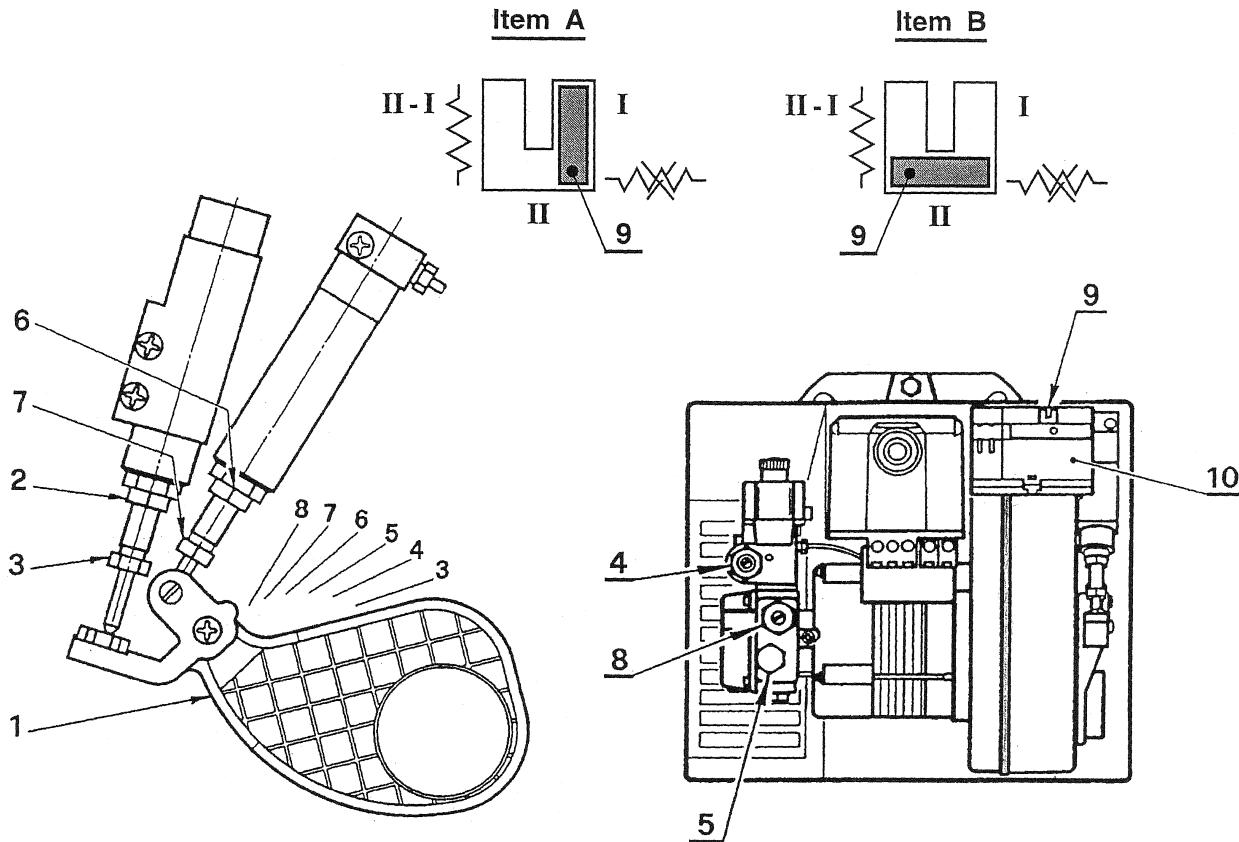

Figure 22
- a. With the oil shut off, remove the 1/8 in. NPT threaded pipe plug located on the lower rear side of the oil pump, refer to Figure 22. Attach a pressure gage, capable of measuring pressure in pounds per square inch gage, PSIG, in this opening, on the discharge side, of the oil pump.